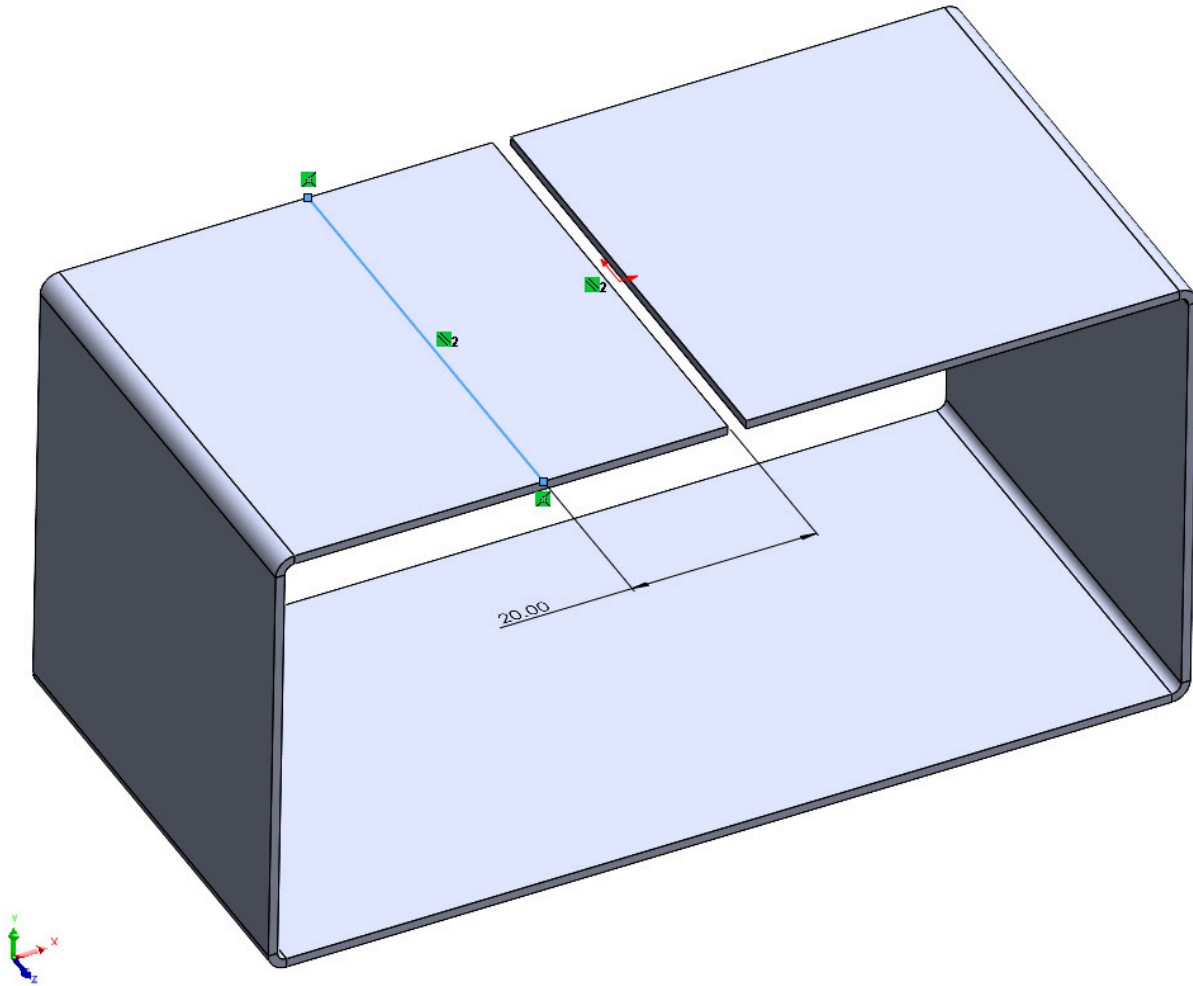

Figure 3.27: Sketching a line for the Jog feature
5. Sketch a single line on the top face of one of the flanges, making it parallel to—and **20mm** away from—the edge (*Figure 3.27*).
7. Within the **Jog** tool, select the **Fixed Face**. This will be the larger region of the flange, on the bend side of the flange (the lefthand section in *Figure 3.27*).